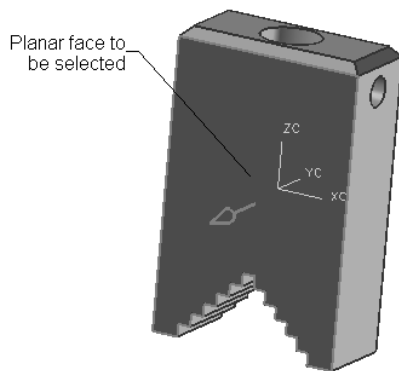
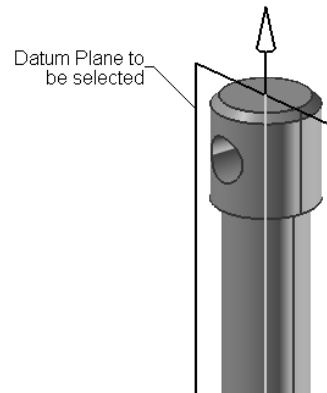

**Figure 8-50** Planar face of the Moveable Jaw to be selected
**Figure 8-51** Planar face of the Screw to be selected
7. Select the top face of the Moveable Jaw as the first object, as shown in Figure 8-50. Select the planar face from the Screw as the second object, as shown in Figure 8-51.